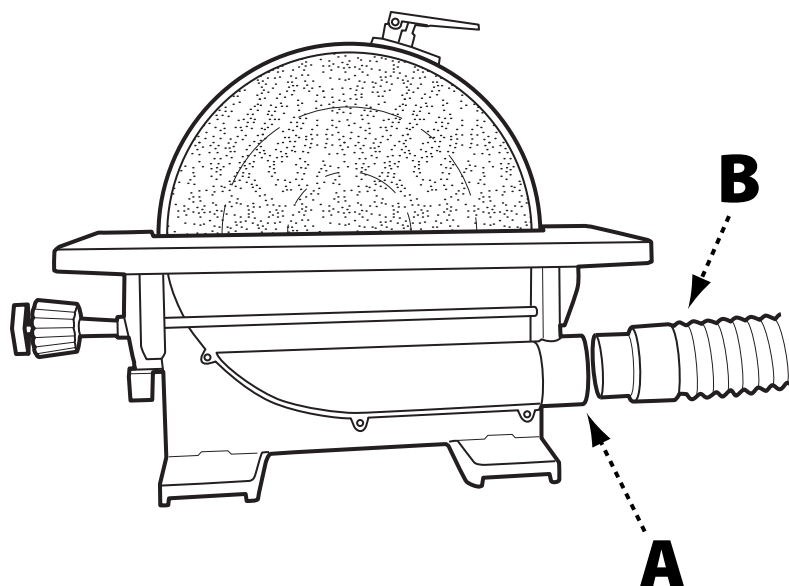

FIGURE 4
The 12" Disc Sander has an efficient, integral fan which provides excellent dust collection. It is recommended that the machine be attached to a dust collector using the 2 1/4" dust port (A) shown in Figure 4.